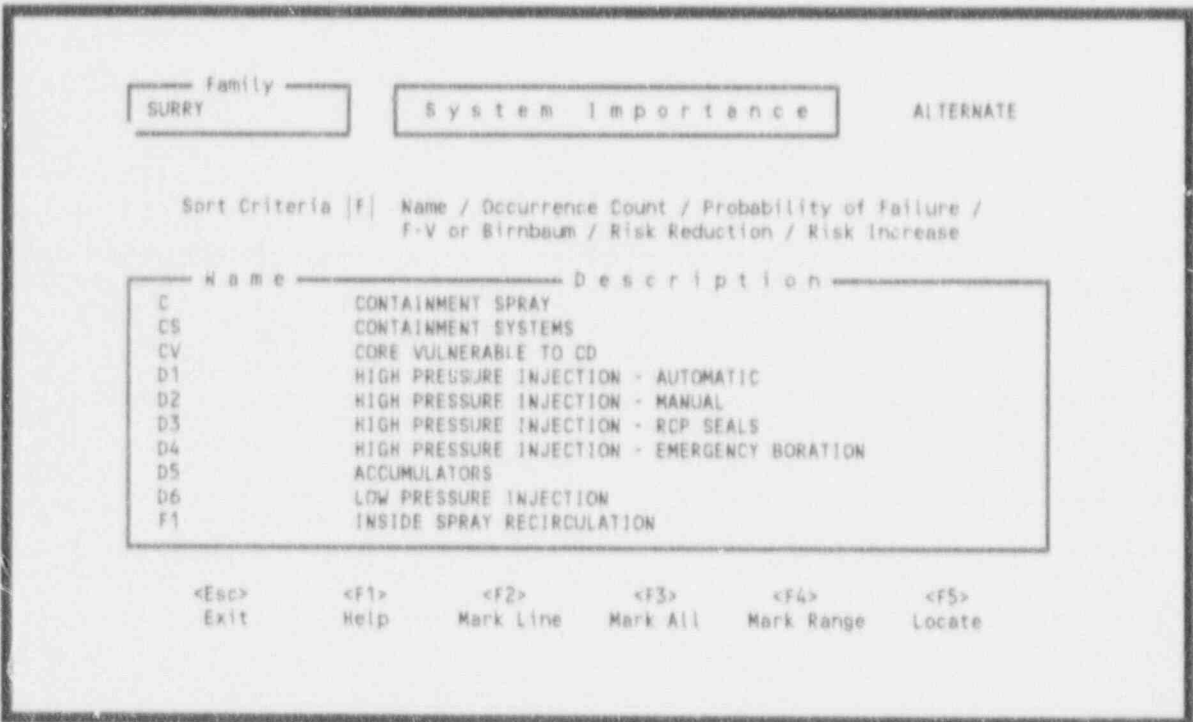

Figure 235. Sort selection screen.
10.5.4.2 Sort Criteria. This option allows you to select the sort order in which to display the System Importance Measures Report. When you invoke this option, Figure 235 will be displayed.